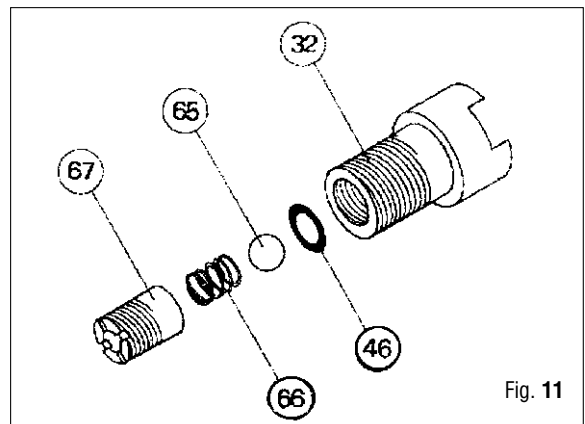
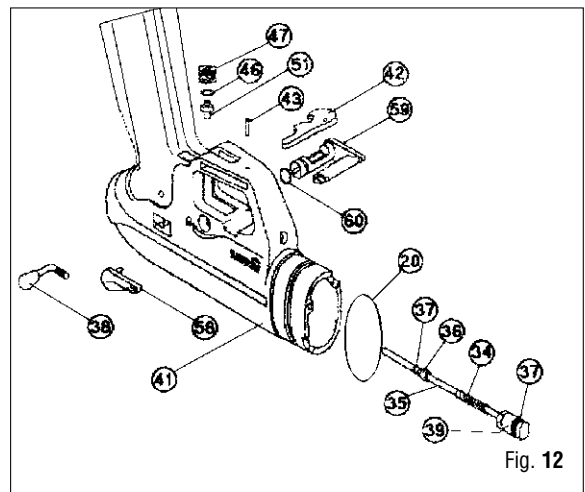

Fig. 11
Fig. 12
30. With a Philips screwdriver, remove the inlet bushing (67) and spring (66) (Fig. 11).
31. Remove ball (65) from the inlet valve body (32).
32. Remove o-ring (46) from the inlet valve body.
33. Slide handle (41) rearward off of the barrel (26).
34. Remove o-ring (37) from o-ring seat (39) of the power adjustment rod (Fig. 12).
35. With a 7 mm wrench, unscrew power adjustment rod (34-35-37-39) from power adjustment lever (38).
25. Position o-ring (46) in inlet valve body (32) seat, with tool (A-13) (Fig. 11).
26. Center the inlet ball (65) on o-ring (46).
27. Place spring (66) inside of the inlet bushing (67).